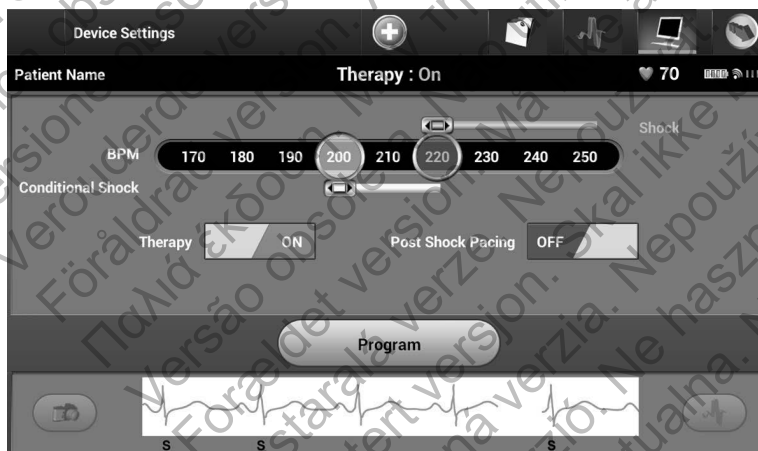

Figure 31: Setting the On/Off Therapy switch
4. Select the On/Off Therapy switch to set the desired therapy mode (Figure 31).